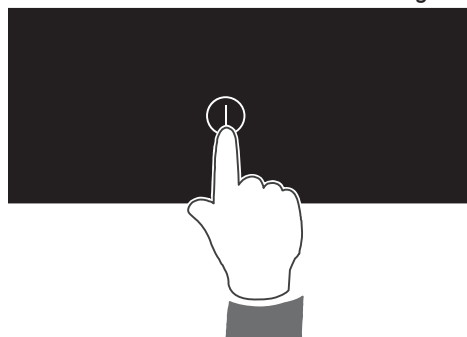

Fig. 2.1
Touch the key ① until the touch control system is lit (fig. 2.1). The displays of the cooking zones read “0.” or “.” (depending if a pan is placed or not on the relative zone).